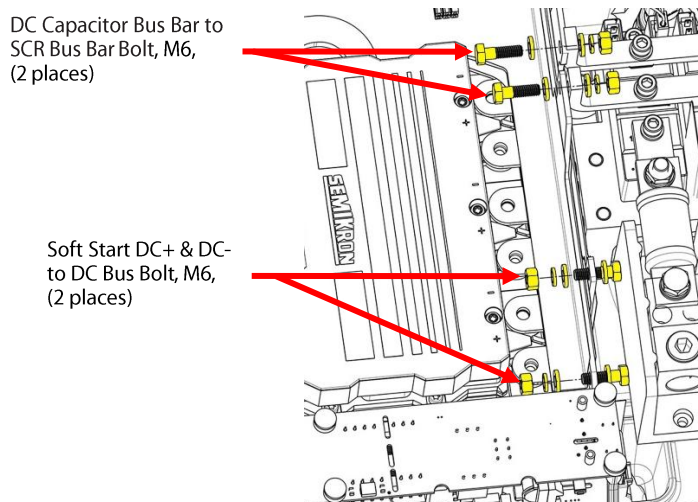

Figure 2 - Fastener Removal
5. Remove the four DC bus bar fasteners shown in Figure 2 - Fastener Removal. **Only remove one at a time to avoid the mylar shifting between the DC bus bars.** Refer to Step 1 in the Snubber Capacitor Installation section when installing the new fasteners.